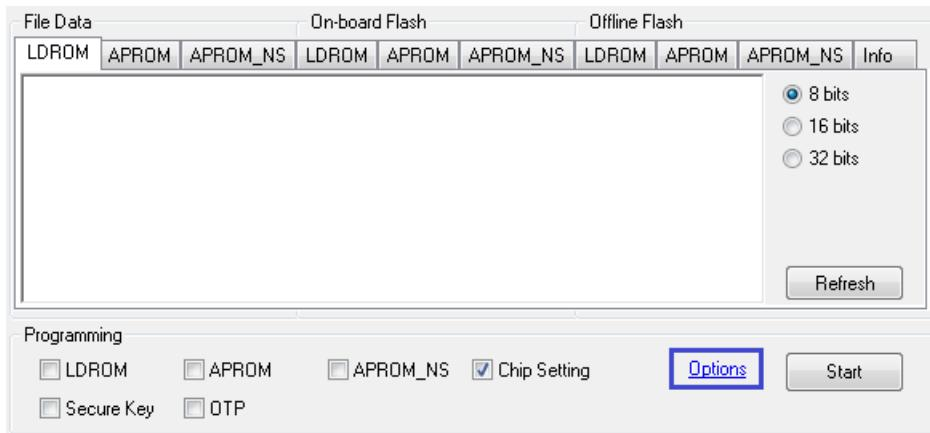

Figure 4-2 Programming Setting
5. Click “Options” button to enter the programming setting page, as shown in Figure 4-2.